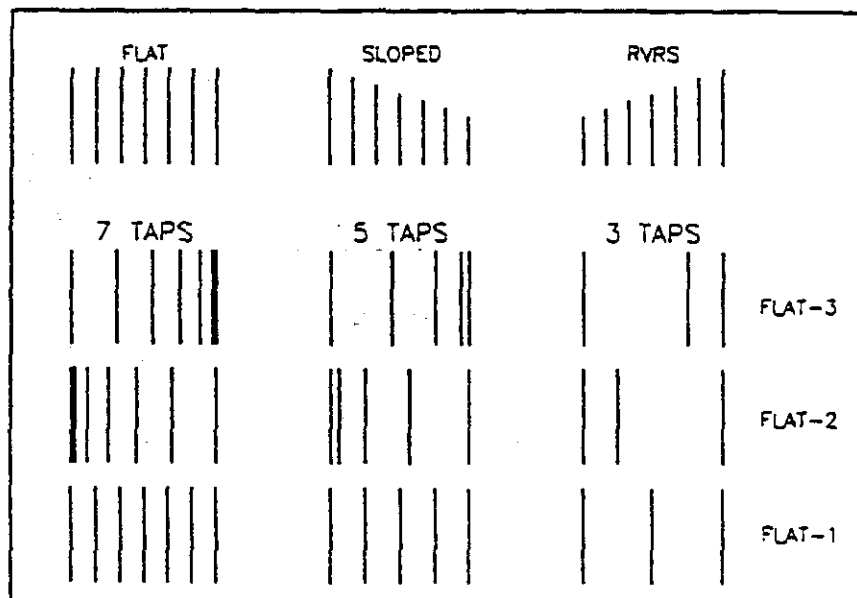

fig. 9
There are three levels of tapped delays in the MULTIVERB II. These are what we call Even (E), Shortened (S), and Lengthened (L). See fig. 9 for a graphic representation. (1's are Even, 2's are Shortened, 3's are Lengthened) Even means that the delay taps are at evenly spaced intervals. Shortened means that as the taps approach the set delay, the intervals are closer together. As the taps approach the set delay in the Lengthened mode they are farther apart. In the types you will see an [m] and an [s], the [m] means mono and the [s] signifies stereo. The mono tapped delay has its left and right taps at the same delay points where the stereo taps are staggered. When using the stereo tapped delays the first right tap is half the delay time before the first left tap. There also are three slopes used in the tapped delays, Flat, Reverse and Forward.
Flat has a flat linear response. Reverse exponentially increases in amplitude as the signal approaches the end. Forward exponentially decreases in amplitude as the signal approaches its end point. See figure 9. TYPE 3 taps are dense and full.